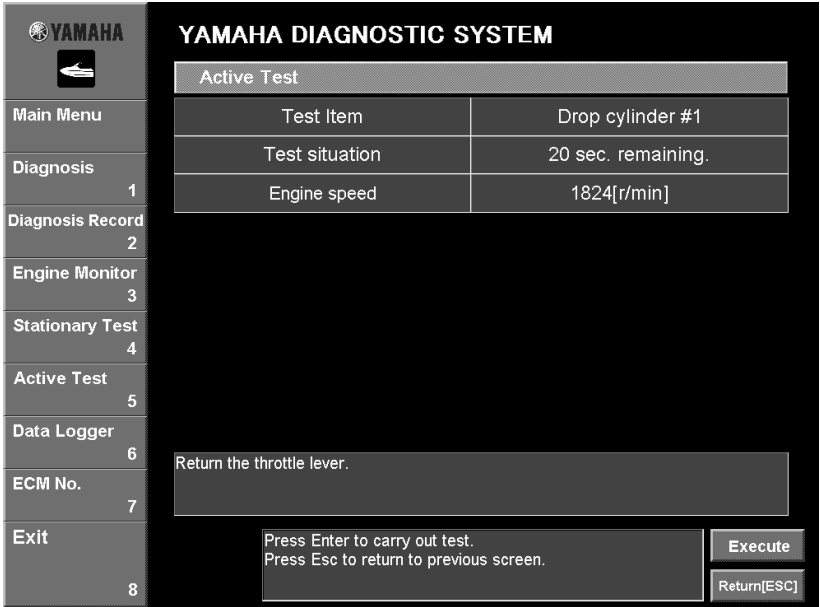

Fig. 56
4. Click the **Execute** button or press the Enter key on your keyboard. (Fig. 56)
- While checking the information that appears beside **Test situation** and **Engine Speed**, follow the test instructions in the messages that are displayed. (Fig. 56)